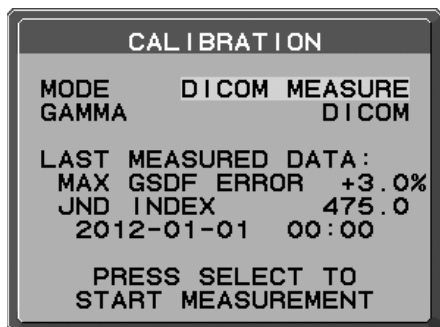

Figure D.1
2. Use "LEFT" or "RIGHT" to select DICOM MEASURE in the MODE selection (**Figure D.1**).